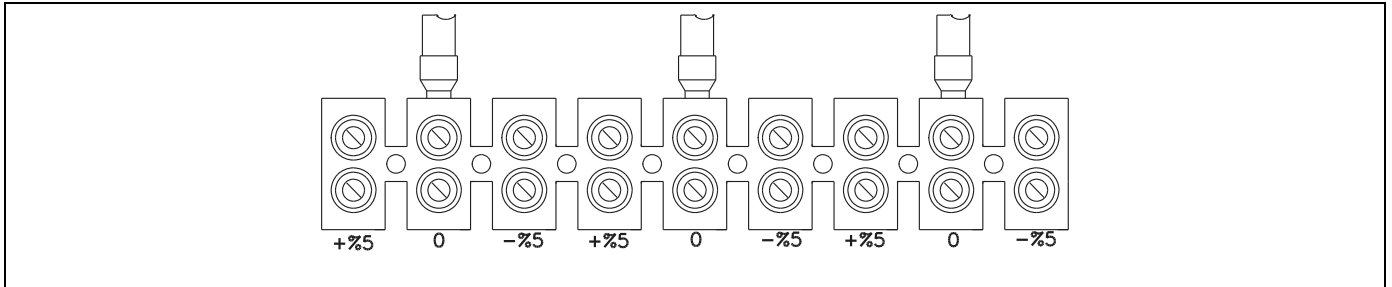

Fig 3. Transformer tap at 0
The mains transformer of the charger has three input taps for each phase (RST) at the terminal block shown in Fig 3.. Using these taps user may increase or decrease output current. The taps labelled as (+5%) – (0) – (-5%). The (+5%) Tap increases the transformer output current approx. 5%. The (-5%) Tap reduces the transformer output current approx. 5%. Factory default is 0. If mains voltage is low, you may use high level. If the voltage is very high you may use low level.